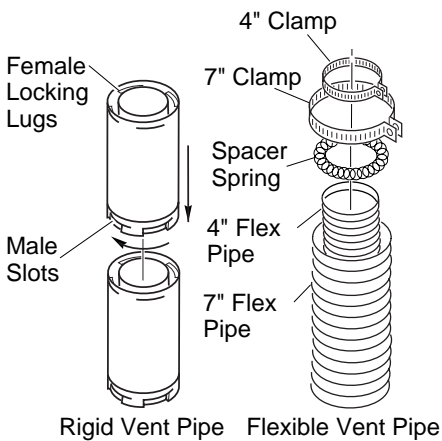

Figure 16 - Vent Pipe Connections
**Twist-lock Procedure:** The female ends of the pipes and fittings have four locking lugs (indentations). These lugs will slide straight into matching slots on the male ends of adjacent pipes and fittings. (All connections must be sealed with high temperature silicone sealant as specified in the second warning statement on page 7.) Push the pipe sections together and twist one section clockwise approximately one-quarter turn until the sections are fully locked. See Figure 16, page 9. *Note:* Horizontal runs of vent must be supported every three feet. Use wall straps for this purpose.
Flexible vent pipe must be installed with spacer springs every 12". See Figure 16, page 9. All connections must be clamped tightly and sealed with high temperature silicone sealant as specified in the second warning statement on page 7.
- Assemble the desired lengths of pipe and elbows necessary to reach from the fireplace flue up through the firestop. All connections must be sealed with high temperature silicone sealant as specified in the second warning statement on page 7. Be sure all pipe and elbow connections are fully twist-locked (see Figure 16, page 9).